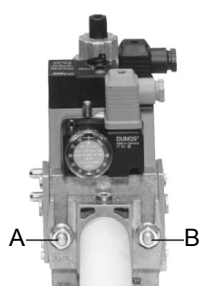
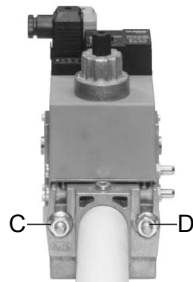
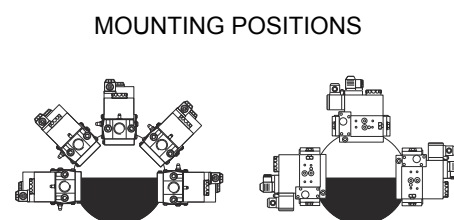

Fig. 3
Fig. 4
Fig. 6
3. tighten screws A, B, C and D (Fig. 3 - Fig. 4), according to the mounting positions (Fig. 6);